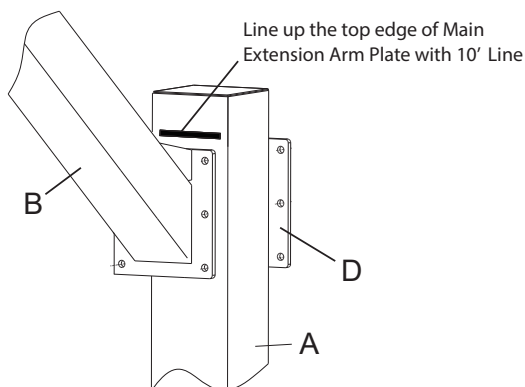

FIGURE 4
- A. Position the Main Extension Arm (B) to the 10' Line on Main post (A) as shown in Figure 4